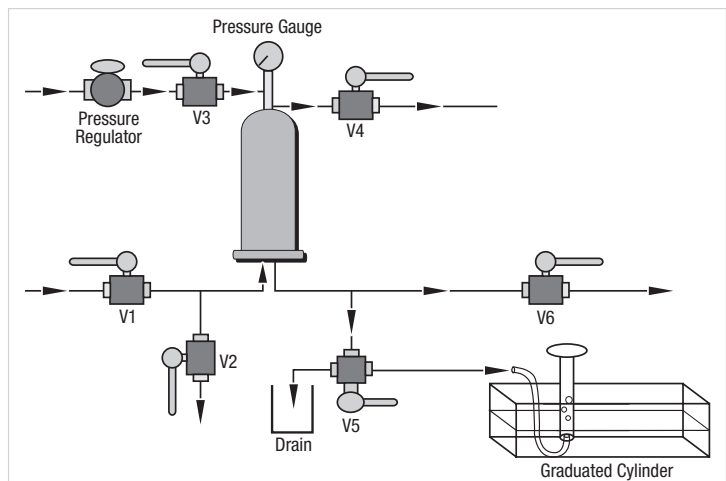

Figure 1. FFIT (manual method).
2. Procedure (Manual Testing — Figure 1)
- Configure the system as shown in Figure 1.